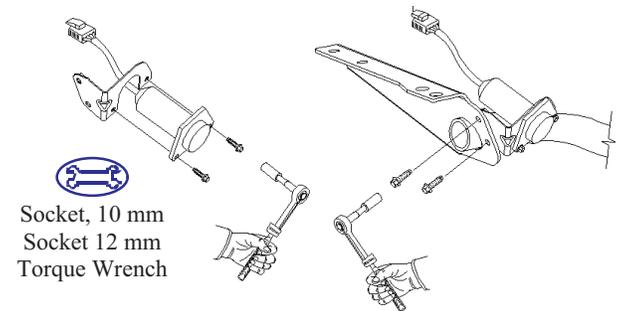

Fig D-1
- ➔ 1. Install 7-pin wiring harness (removed in Step B. 8.) to the provided wiring bracket using two (2) M6-1.00x20mm bolts. (Fig. D-1)
- ➔ 2. Install wiring bracket to inside surface of the driver side hitch bracket using two (2) M8x1.25x20 black bolts with trapped washers. (Fig. D-1)
- ⚠ 4. Tighten the M8 bolts to 19 +/- 4 lbf-ft (25 +/- 5 N-m). (Fig. D-1)
- ⚠ 5. Tighten M6 bolts to 94 +/- 19 lbf-in (10.4 +/- 2 N-m). (Fig. D-1)